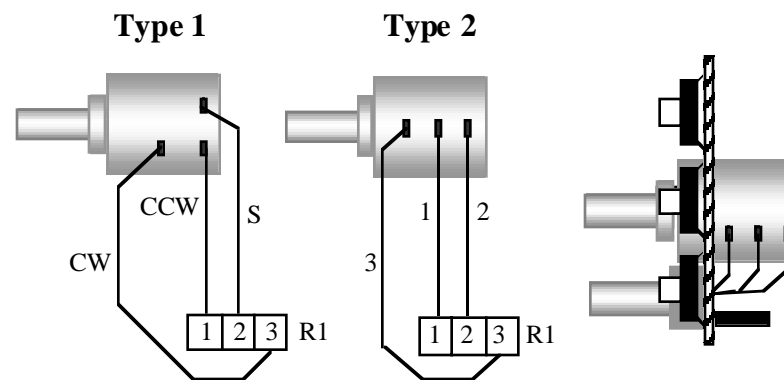

Figure 5-9
- Locate the 10-turn potentiometer, R1. Look closely at **Figure 5-9**, which shows the positions of the three lugs. The lugs may be labeled 1, 2, and 3, or S, CW, and CCW. 10-turn potentiometer labeling can be confusing, so use the drawing to identify the lugs. **Your potentiometer may be either of the two types shown.**
- Near the large hole in the board, you'll find three pads for R1's leads (labeled 1, 2, and 3). Referring to **Figure 5-9**, insert the potentiometer's wires into their corresponding holes. **Do not solder yet.**